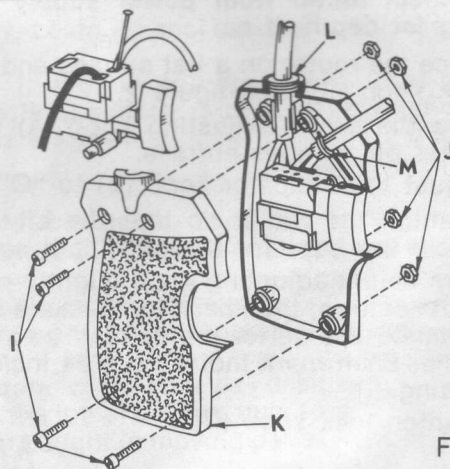

Fig. 5
1. Remove screws (I) and nuts (J) and then remove handle cover (K). See Fig. 5.
2. Note location of grommet (L) and strain relief (M) in handle and how each lead is connected to switch.
3. Remove leads from switch by inserting a 1/32" diameter pin or nail into switch lead receptacle as shown in Fig. 5 and pulling on the lead. Remove pin or nail with a twisting, pulling motion.
6. Make sure grommet (L) and strain relief (M) are in place and replace handle cover, screws and nuts.
4. If work light cord is being replaced refer to Fig. 5 and handle cord and switch replacement.